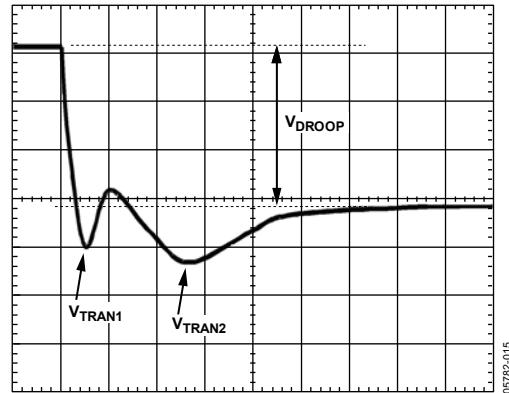

Figure 29. Transient Setting Waveform, Load Step
15. Users should see a waveform that similar to the one in Figure 29. Use the horizontal cursors to measure  $V_{ACDRP}$  and  $V_{DCDRP}$  as shown. Do not measure the undershoot or overshoot that occurs immediately after the step.
19. With dynamic load still set at the maximum step size, expand the scope time scale to see 2  $\mu$ s/div to 5  $\mu$ s/div. A waveform that has two overshoots and one minor undershoot can result (see Figure 29). Here,  $V_{DROOP}$  is the final desired value.